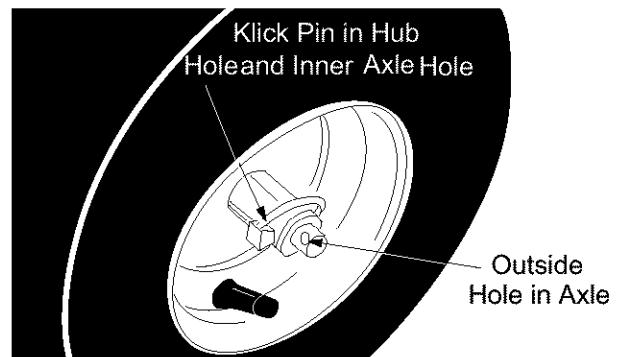

Figure 22
The wheels may be adjusted for two different methods of operation. The adjustment is made by placing the click pins in one of two different holes on the right side of the unit. See Figure 22.
2. **Both Wheels Driving**—Both Wheels Driving—Rotate wheel assembly to align hole in hub with inner hole on axle shaft. Insert click pin in hole. Outer axle shaft hole should be visible. This position is good for heavy snow as there is power to both wheels. See Figure 22.